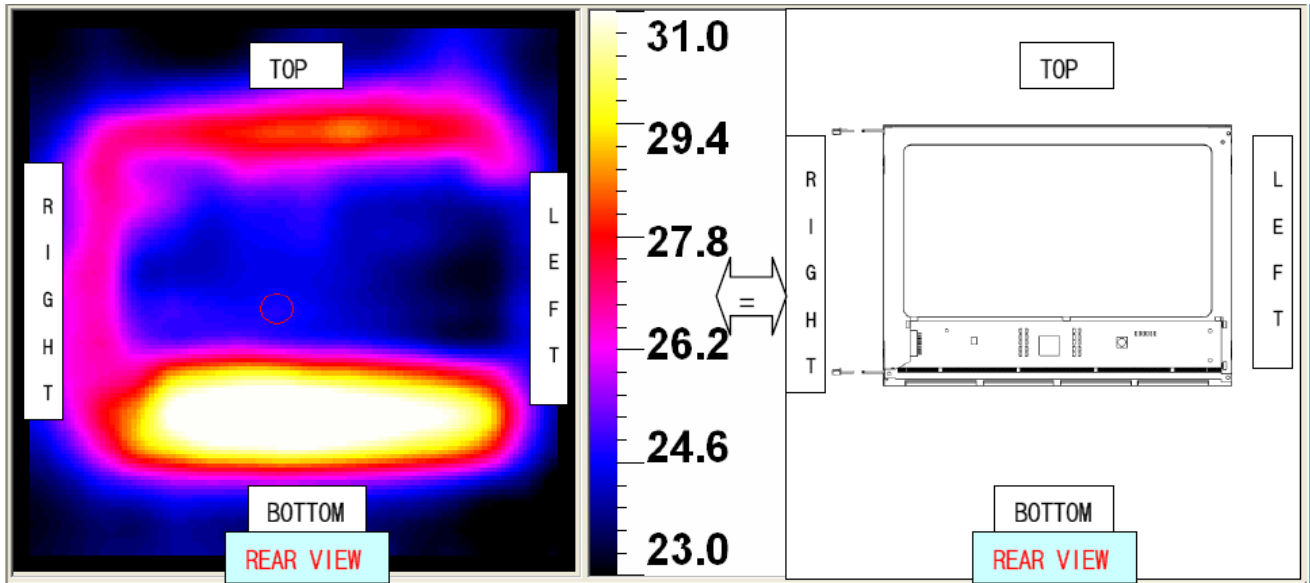

Figure 1. Thermal Map Showing the Heat Imaging of the LVM104XSB-411B-L01 (REAR VIEW)
- (1) The spike noise causes the mis-operation of circuits. It should be lower than following voltage : $V = \pm 200\text{mV}$ (Over and under shoot voltage).
- (2) Response time depends on the temperature. (In lower temperature, it becomes longer.)
- (3) Brightness depends on the temperature. And in lower temperature, response time (required time that brightness is stable after turned on) becomes longer.
- (4) Be careful for condensation at sudden temperature change. Condensation makes damage to polarizer or electrical contacted parts. And after fading condensation, smear or spot will occur.
- (5) When fixed patterns are displayed for a long time, remnant image is likely to occur.
- (6) The thermal map showing the heat imaging of the module (LVM104XSB-411B-L01) is shown in figure 1. Please reference the thermal map for optimum thermal design to maximize the MTBF of LED life.